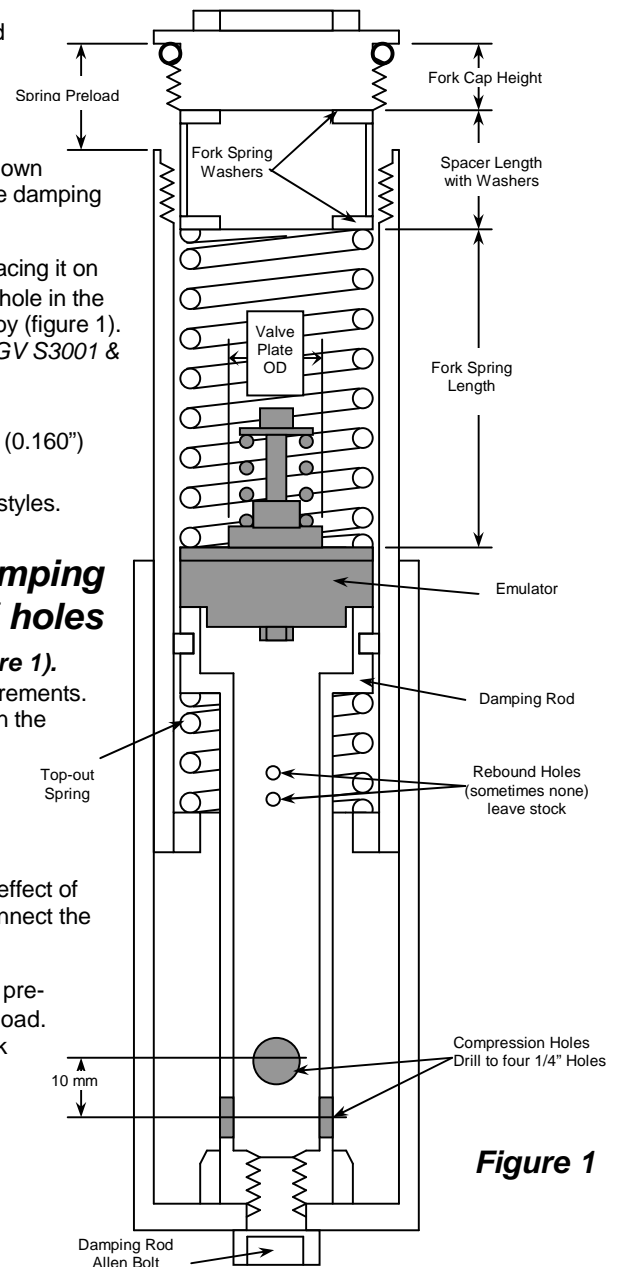

Figure 1
Check the fit of the Gold Valve Emulator by placing it on top of the damping rod. The step on the Emulator must sit into the large hole in the top of the damping rod and must completely cover it so there is no blow-by (figure 1). Do NOT machine down Emulator to fit Yamaha RD250/350/400, use FEGV S3001 & Spacer FPEV ADxxx
- Check the inner diameter of the fork spring.** It must be at least 4 mm (0.160") larger than the Emulator Valve Plate OD for proper flow (figure 1).
- 3 **Drill the existing compression holes in the damping rod to 1/4 inch (6 mm) and add additional 1/4" holes so you end up with four holes (2 sets of 2 holes) (figure 1).**
When drilling new holes, space them axially (lengthwise) at 10 mm (7/16") increments. Each set of two holes must be perpendicular to the last set so as not to weaken the rod (figure 1). After drilling, chamfer and deburr the compression holes, inside and out. **Do not add or enlarge the rebound holes and leave their edges sharp if any exist.**
- Drop the Emulator down the tube. It sits on top of the damping rod with the Emulator Valve Spring facing up and is held in place with the main fork spring. Refer to figure 1. Visually check to make sure the Emulator is sitting squarely on top of the damping rod or the adapter. If you have flat top style damping rods it requires adapters (figure 2) and they should be installed first, before the Emulator.
- Set the fork cap on the washer and determine the preload by measuring from the top of the fork tube to the sealing lip on the fork cap (see figure 1). This is a direct measurement of fork spring preload. Shorten the spring spacer tube to achieve the proper preload as shown in Table 2.